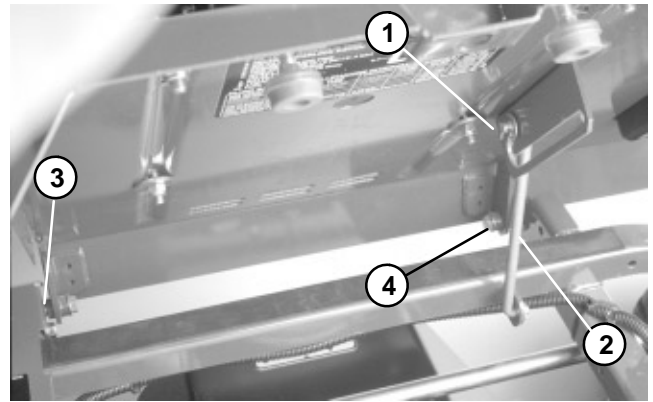

Figure 44
4. Pivot seat up. Remove seat base with seat attached as follows (Fig. 44):
6. Install seat base with seat attached to the frame as follows (Fig. 44):